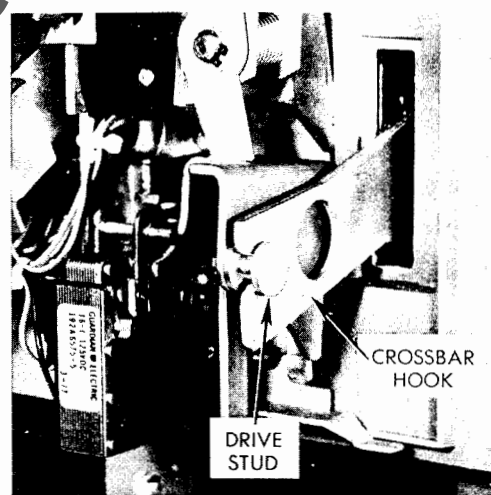

FIG. 28
- b. Slide the Inner Cover Assembly onto the breaker base. Ensure that the crossbar hook engages the drive stud as shown in Fig. 28.